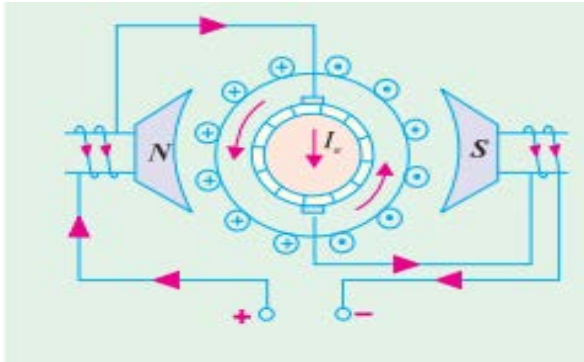

Fig. 1
- The production of unidirectional torque, when the motor runs on a.c. supply can be easily understood from Fig. 1.